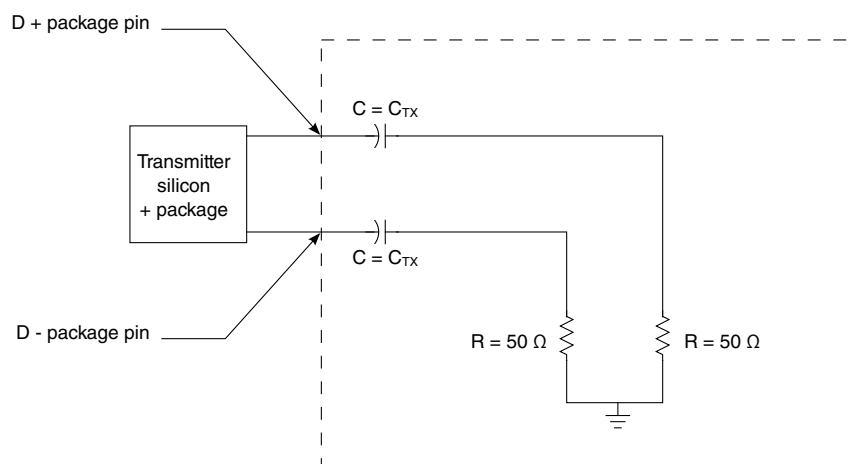

Figure 82. Test and measurement load
- Specified at the measurement point into a timing and voltage test load as shown in Figure 82 and measured over any 250 consecutive transmitter UIs.
Notes: 1. Each UI is 200 ps $\pm$ 300 ppm. UI does not account for spread-spectrum clock dictated variations. 2. Specified at the measurement point into a timing and voltage test load as shown in Figure 82 and measured over any 250 consecutive transmitter UIs. 3. The maximum transmitter jitter can be derived as: $T_{TX-MAX-JITTER} = 1 - T_{TX-EYE} = 0.25$ UI. 4. Reference input clock RMS jitter (< 1.5 MHz) at pin < 1ps. 5. The chip's SerDes transmitter does not have C_{TX} built-in. An external AC coupling capacitor of 100 nF is required. 6. All transmitters must be AC coupled. The AC coupling is required either within the media or within the transmitting component itself.
Notes: - Each UI is 400 ps $\pm$ 300 ppm. UI does not account for spread-spectrum clock dictated variations. - The maximum interconnect media and transmitter jitter that can be tolerated by the receiver can be derived as $T_{RX-MAX-JITTER} = 1 - T_{RX-EYE} = 0.6$ UI. - Specified at the measurement point and measured over any 250 consecutive UIs. The test load in Figure 82 must be used as the receiver device when taking measurements. If the clocks to the receiver and transmitter are not derived from the same reference clock, the transmitter UI recovered from 3500 consecutive UI must be used as a reference for the eye diagram. - A $T_{RX-EYE} = 0.40$ UI provides for a total sum of 0.60 UI deterministic and random jitter budget for the transmitter and interconnect collected any 250 consecutive UIs. The $T_{RX-EYE-MEDIAN-to-MAX-JITTER}$ specification ensures a jitter distribution in which the median and the maximum deviation from the median is less than half of the total. UI jitter budget collected over any 250 consecutive transmitter UIs. It must be noted that the median is not the same as the mean. The jitter median describes the point in time where the number of jitter points on either side is approximately equal as opposed to the averaged time value. If the clocks to the receiver and transmitter are not derived from the same reference clock, the transmitter UI recovered from 3500 consecutive UI must be used as the reference for the eye diagram. - It is recommended that the recovered transmitter UI is calculated using all edges in the 3500 consecutive UI interval with a fit algorithm using a minimization merit function. Least squares and median deviation fits have worked well with experimental and simulated data. - Jitter is defined as the measurement variation of the crossing points ($V_{RX-DIFFp-p} = 0$ V) in relation to a recovered transmitter UI. A recovered transmitter UI is calculated over 3,500 consecutive unit intervals of sample data. Jitter is measured using all edges of the 250 consecutive UI in the center of the 3,500 UI used for calculating the transmitter UI.